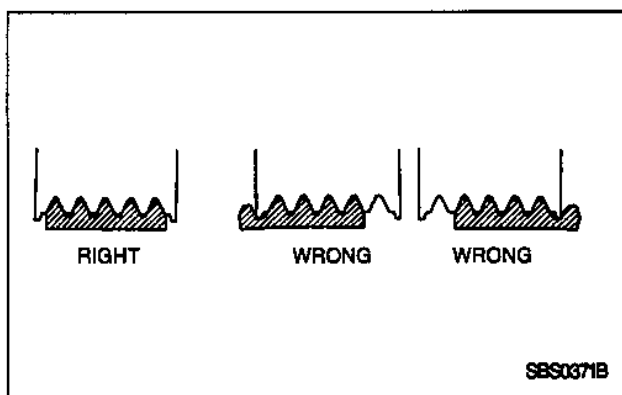

Figure 15—Compressor Drive Belt Alignment
Figures 15 and 16
1. Belt for proper alignment on the compressor and the crankshaft drive pulley (Figure 15).